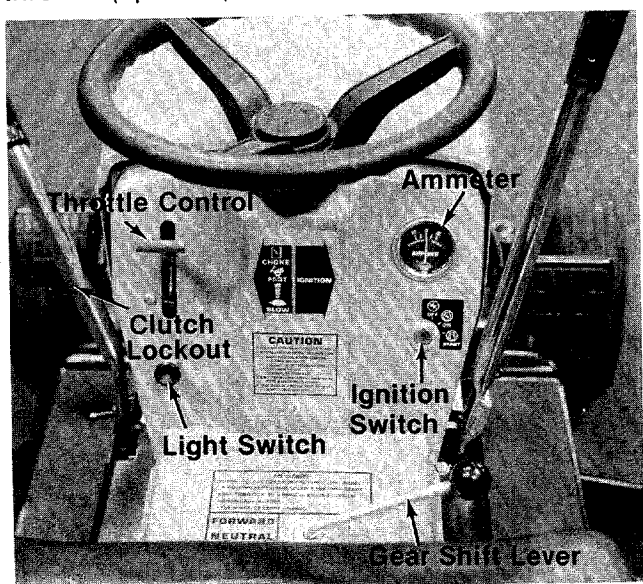

FIGURE 14.
a. **Throttle Control.** The throttle control is used to regulate the engine speed and choke the engine. The engine should be operated from $\frac{3}{4}$ to full throttle when operating the cutting deck or snow thrower (optional). See figure 14.
b. **Gear Shift Lever.** The gear shift lever is used to shift into "FORWARD," "NEUTRAL" or "REVERSE." See figure 14.
h. **Ammeter.** The ammeter registers the rate of battery charge or discharge. The ammeter should register on the plus side (+) when the engine is running in the fast position until the battery is completely charged. With a fully charged battery or with the engine idling, the ammeter will not show a charge. See figure 14.
i. **Light Switch.** Push the light switch to turn on the lights. The lights will only operate when the engine is running. See figure 14.
Turn the key to the "START" position to start the engine. When the engine is running, let the key return to the "ON" position. To stop the engine, turn the key to the left to the "OFF" position and remove it to prevent accidental starting. See figure 14.
5. Set the throttle control in the "CHOKE" position. See figure 14.
6. Turn the ignition key to the "START" position. When the engine is running, let the key return to the "ON" position. See figures 14 and 20.